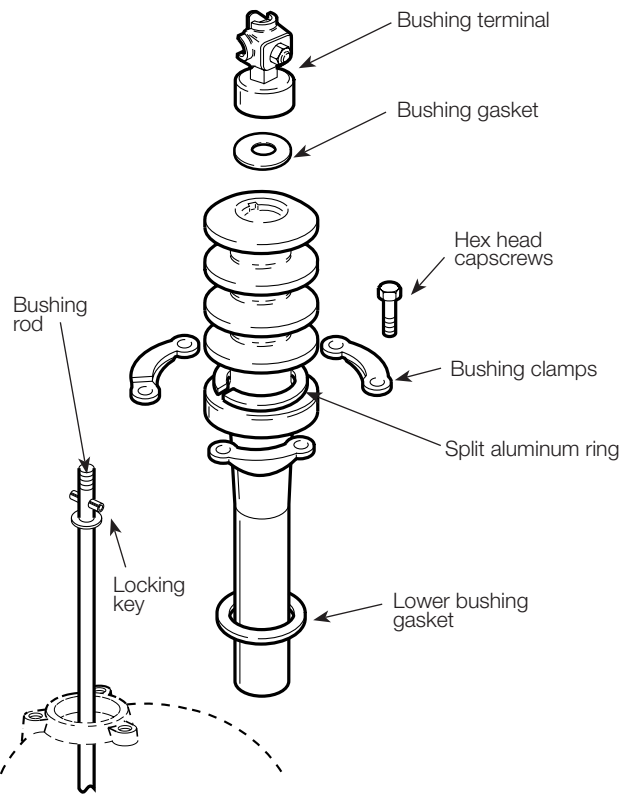

Figure 3. Bushing porcelain replacement
1. Unscrew bushing terminal, discard terminal gasket, see Figure 3.